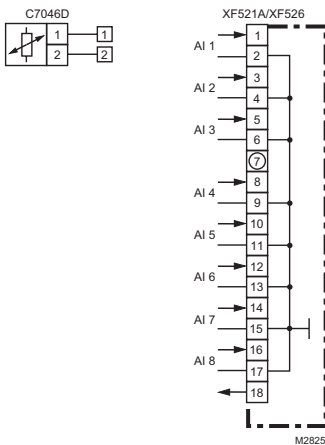

Fig. 6. Connecting C7046D Air Temperature Sensor to Excel 500 Control System.
3. For connections to the Excel 500 Control System, see Fig. 6.